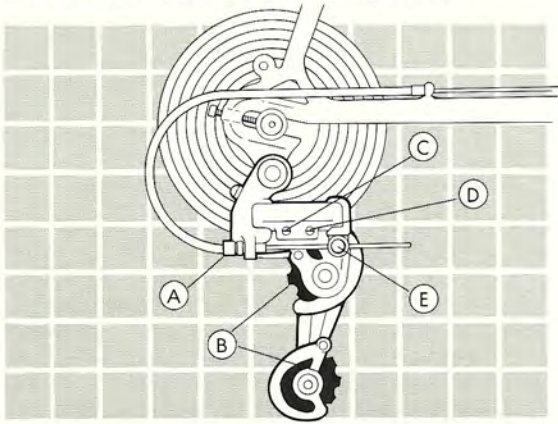
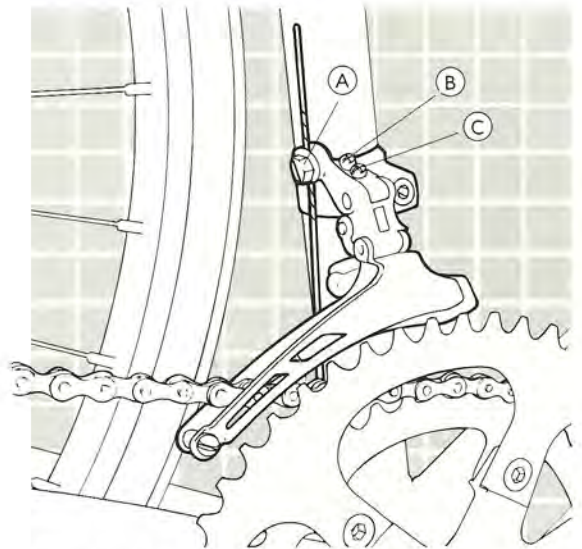

Figure 5. Rear derailleur
Figure 7. Front derailleur
If shifting is sluggish or difficult, if you hear a rubbing or grinding noise, or if the chain rubs on any part of the bicycle or falls off during or after a shift, check the adjustment of the derailleurs. The rear derailleur (Figure 5) should be checked and adjusted first because the front derailleur (Figure 7) cannot be aligned if the rear mechanism is out of adjustment.
**Front Derailleur.** To adjust your front derailleur (Figure 7), first shift the chain onto the smallest front chainring and the largest rear sprocket. Loosen the cable clamp bolt until the cable is free. Then turn the low gear adjusting screw until the chain is close to, but not touching, the inner chain guide. Move the lever to its most forward position, pull the cable taut, and tighten the cable clamp bolt. Be careful not to under- or overtighten; we recommend tightening to 30"lbs.